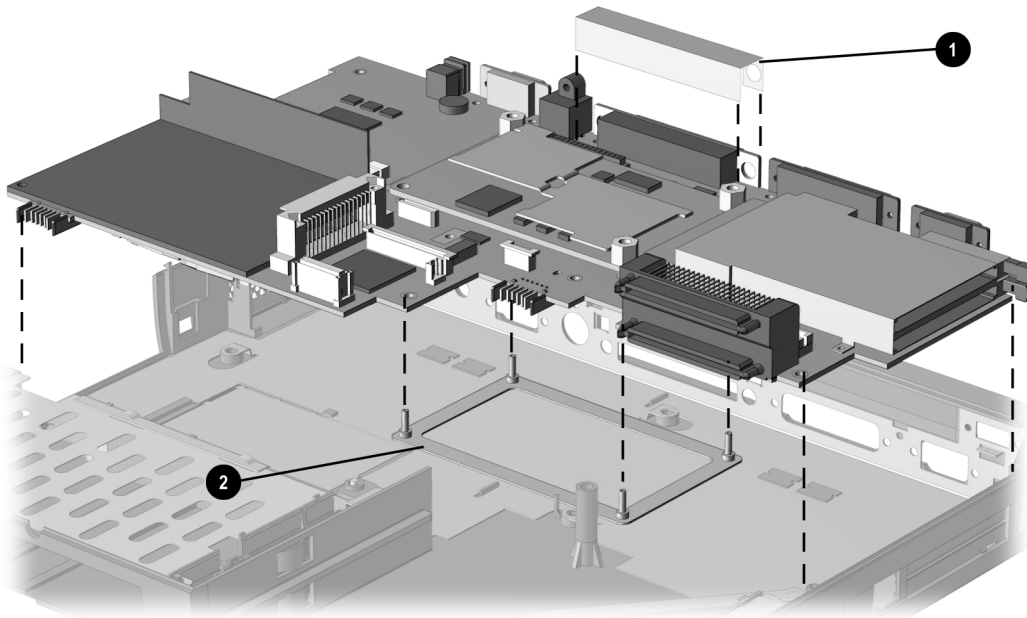

Figure 5-57. Expansion Connector Shield and Processor Mount Bracket Locations
NOTE: When removing the system board, make sure the expansion connector shield ❶ and processor mount bracket ❷ are not dislodged (Figure 5-57).